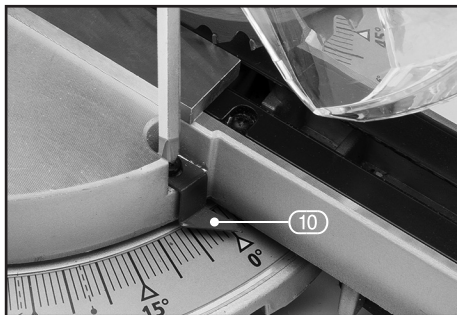

FIG. 12
– FIG.12
- Using a cross-slot screwdriver, loosen the screw that holds the mitre pointer (10) in place.